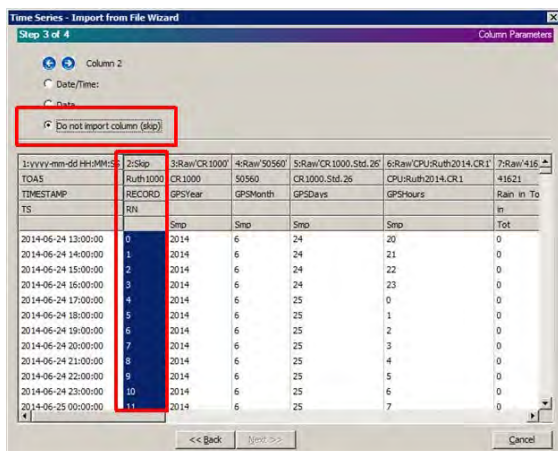

Figure SOP 11-10. Import from File Wizard, step 3 (cont.). Skip columns that do not contain data.
- ii. The current datalogger program contains numerous columns with additional date/timestamp information (Figure SOP 11-10). The additional information is recorded as a backup in case the datalogger clock malfunctions. If the datalogger has recorded the correct timestamp, these columns can be “skipped” because they do not need to be imported to Aquarius. Select these columns by clicking on the grey header rows, and select “Do not import column (skip)”.